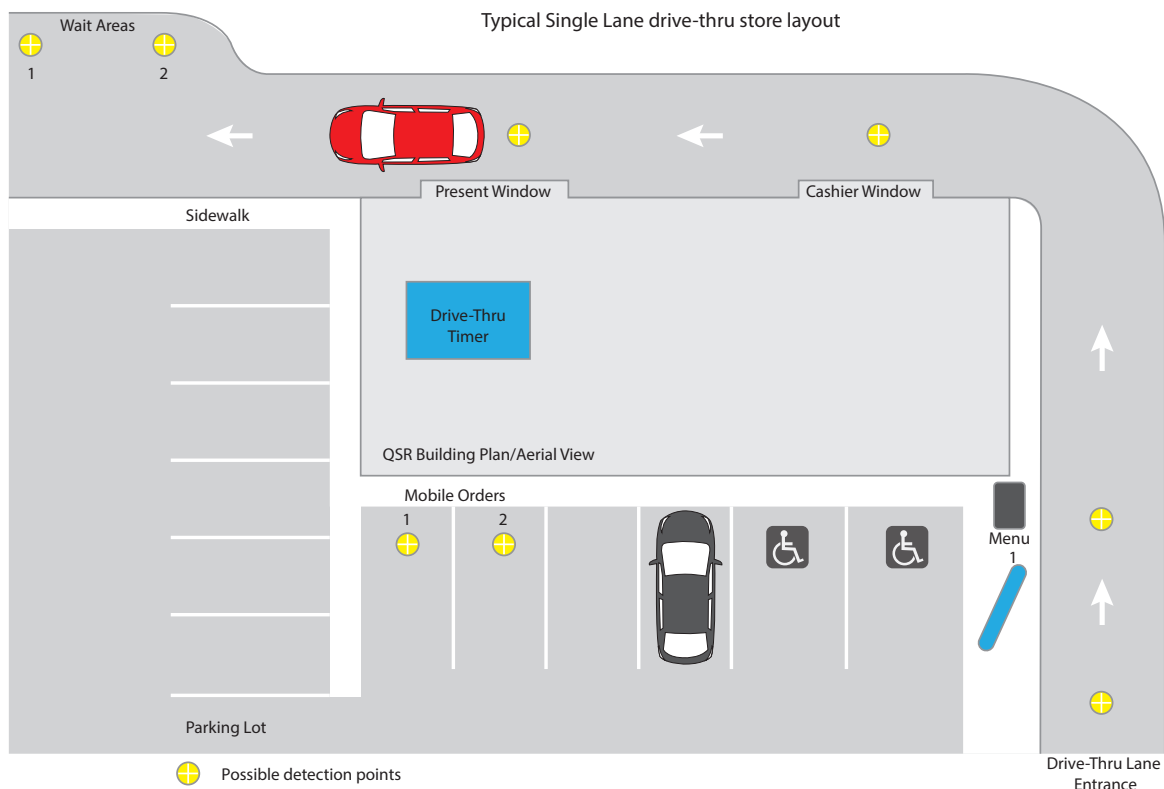

Fig. 1.4
- Mobile Order/Wait Areas: vehicle detection is off to the side of a lane, or in a reserved parking spot designated by the restaurant/store. Fig. 1.4 shows two Wait Areas and two Mobile Order spots.
Figures 1.4, 1.5, 1.6, and 1.7 illustrate possible examples of typical drive-thru layouts. Detection points (indicated by the circular yellow markers) can be installed at various strategic locations. You can label each detection point on your Dashboard. Commonly used examples are: Arrival, Greet, Menu, Order, Cashier, Pay, Present, Service, Mobile Order, Wait Area.